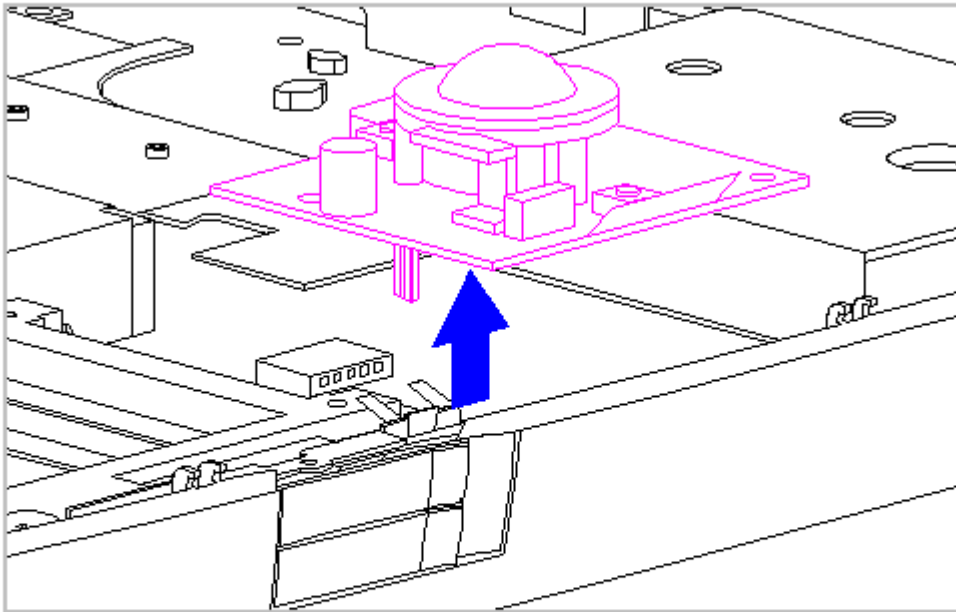

Figure 5-36. Disconnecting the Optical Trackball Assembly from the System Board
4. Disconnect the integrated optical trackball assembly from the system board by pulling upward on the trackball assembly (Figure 5-36).